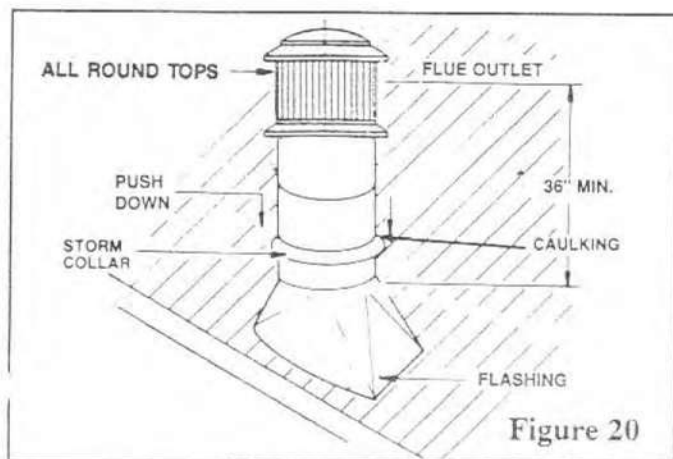

Figure 20
**STEP 9:** Install storm collar on the chimney and push down near the top of the flashing. Apply waterproof caulking around the top of the storm collar (Figure 20). **NOTE: THIS IS AN IMPORTANT STEP TO ENSURE A WATERTIGHT SYSTEM.**